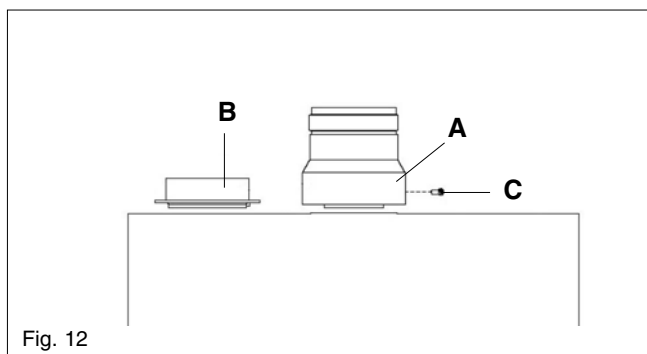

Fig. 12
Using the template provided (A), mark and drill a 125mm hole for the passage of the flue pipe. The hole should be drilled to ensure any condense fluid that forms, is allowed to drain back to the appliance (see fig. 12). The fixing holes for the wall-mounting bracket should now be drilled and plugged, an appropriate type and quantity of fixing should be used to ensure that the bracket is mounted securely. Once the bracket has been secured to the wall, mount the appliance onto the bracket.
Carefully measure the distance from the centre of the appliance flue outlet to the edge of the finished outside wall (dimension X). Add 65mm to dimension X to give you Dimension Y (see fig 12). Measure dimension Y from the terminal end of the concentric flue pipe and cut off the excess ensuring any burrs are removed. Pass the concentric flue pipe through the previously drilled hole. Fit the flue bend to the boiler flue outlet and insert the concentric flue pipe into the flue bend ensuring the correct seal is made. Using the clamp, gasket, and screws supplied, secure the flue bend to the appliance flue spigot.
Using the dimensions given in fig. 12 as a reference, mark and cut a 125mm hole in the ceiling and/or roof.
INSTALLATION OF TWIN ADAPTOR KIT (fig. 12 & 13)